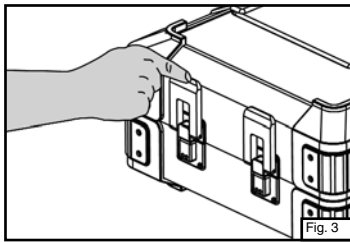

Fig. 3
- To open the lid, unsnap the two latches on the left side of the stove and swing open the food prep side (Fig. 3).